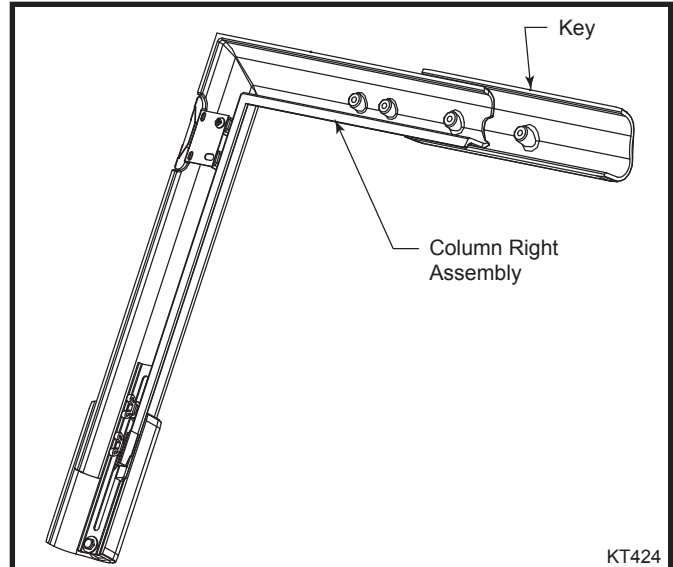

Fig. 4 Place column right assembly onto key.
2. Place the column right assembly onto the key. (Fig. 4)